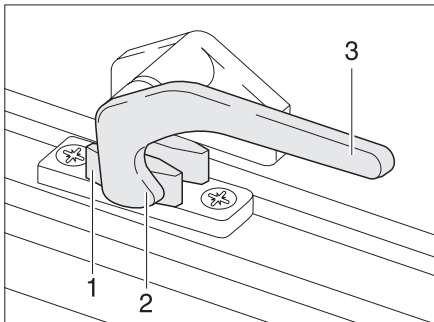

Fig. 44 Catch lever in "closed" position
- ▶ Turn the catch lever (Fig. 44,3) a quarter turn towards the centre of the window.
- ▶ Turn the catch lever (Fig. 44,3) a quarter turn towards the window frame. The locking catch (Fig. 44,2) is located on the inside of the window catch (Fig. 44,1).
- "Firmly closed" (Fig. 44)